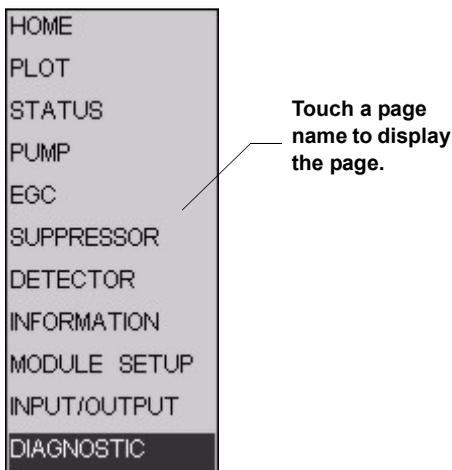

Figure 2-4. ICS-2000 Touch Screen Menu of Pages
- Touching the page name (for example, ) in the bottom right corner, opens a menu of pages (see Figure 2-4).